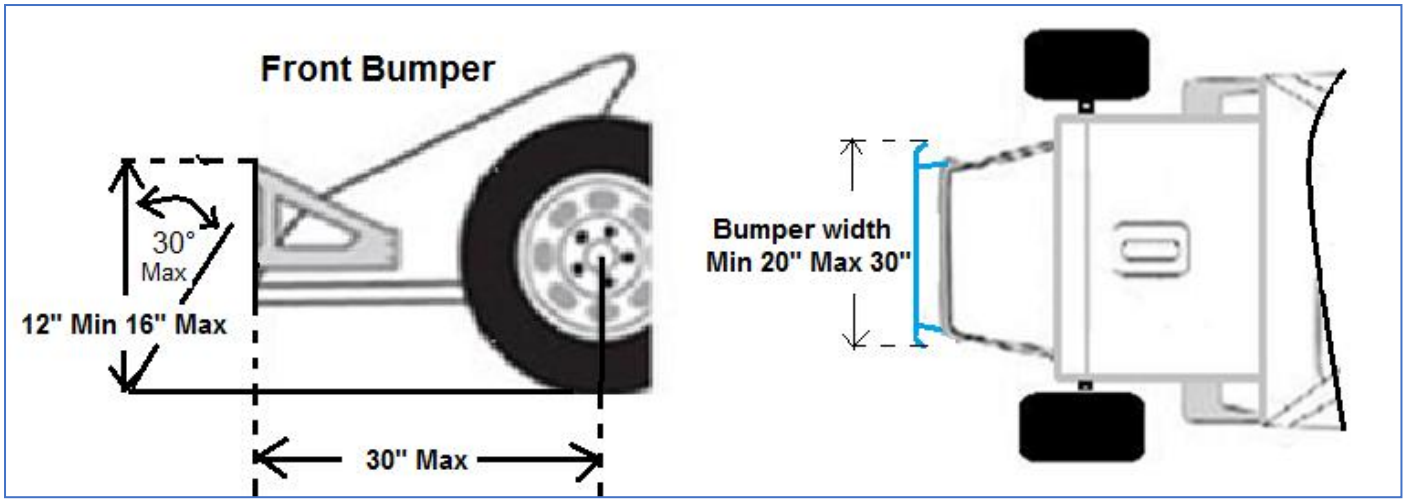

Figure 11
16.1 Front bumper maximum width 30 inches and minimum width is 20 inches. Ground to top of bumper must be 12 inches minimum up to 16 inches maximum. Bumper may not extend more than 30 inches forward of the spindle measured from the centre of the front spindle to the outside of front bumper. Front bumpers may have a maximum rake of 30°. (*Figure 11*).